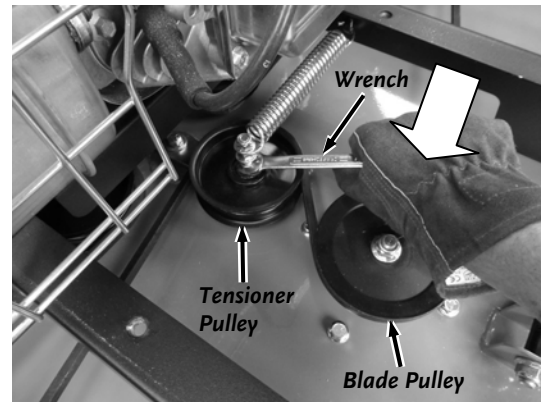

Figure 49
9. **Mow Pro-60 model only:** Release tension on the Belt by placing a 9/16" Wrench on the nut against the Tensioner Pulley and roll the Belt off the Blade Pulley (**Figure 49**).